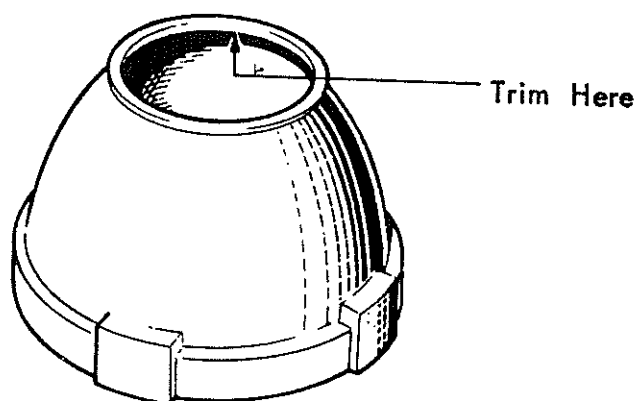

Fig. 9 GEARCHANGE LEVER CAP
4. Check that movement of the gear lever is not impeded by the lip at the top of the nylon gearchange lever cap (see Fig. 9), thus preventing full engagement of the gears. If necessary, trim this lip with a knife to obtain sufficient clearance.